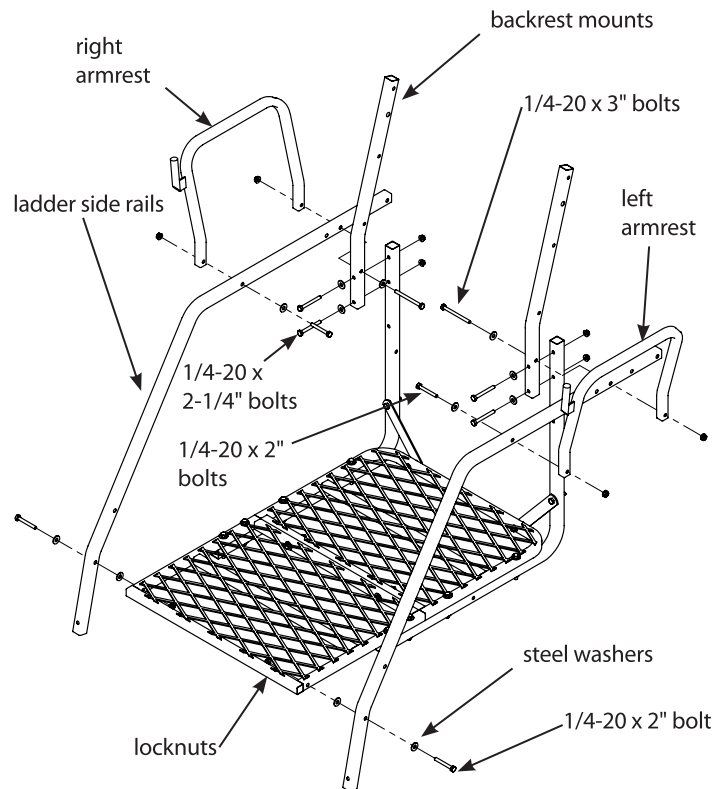

Figure 3
4. Attach the front of the ladder side rails (410053) to the front platform using (2) provided 1/4-20 x 2" bolts (2), locknuts (4) and steel washers. **SEE FIGURE 3.**
5. Attach the left armrest (410062L), right armrest (410062R) and (2) backrest mounts (410082) to the previously assembled ladder side rails and platform support rails using (2) provided 1/4-20 x 2" bolts, (4) 1/4-20 x 2-1/4" bolts, (2) 1/4-20 x 3" bolts, (8) locknuts and (8) steel washers. **SEE FIGURE 3.**